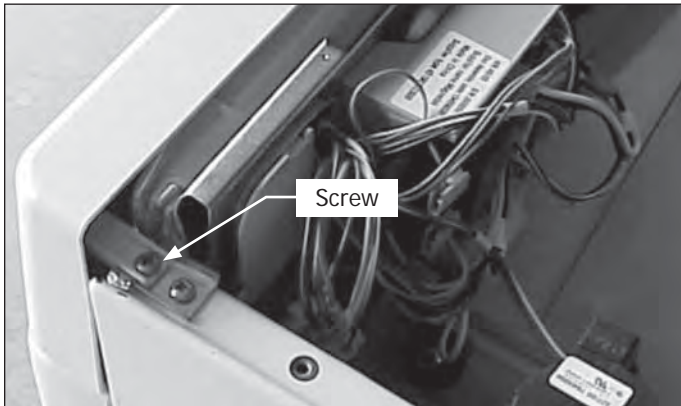

Figure 4-19.
2. Remove the (2) screws, one on each end, holding the console to the top of the side panels. (See Figure 4-19)